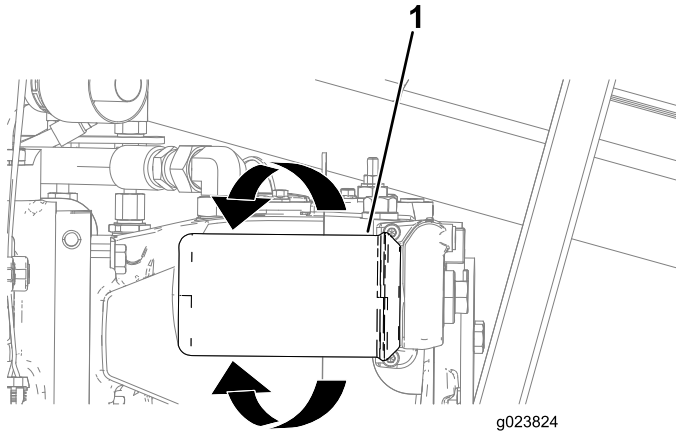

Figure 156
3. Align a drain pan or several rags under the charge filter (Figure 156).
4. Rotate the charge filter counterclockwise and remove the filter (Figure 156).
6. Align the charge filter to where it seats, and rotate it clockwise until the seal of the filter contacts the adapter (Figure 156).